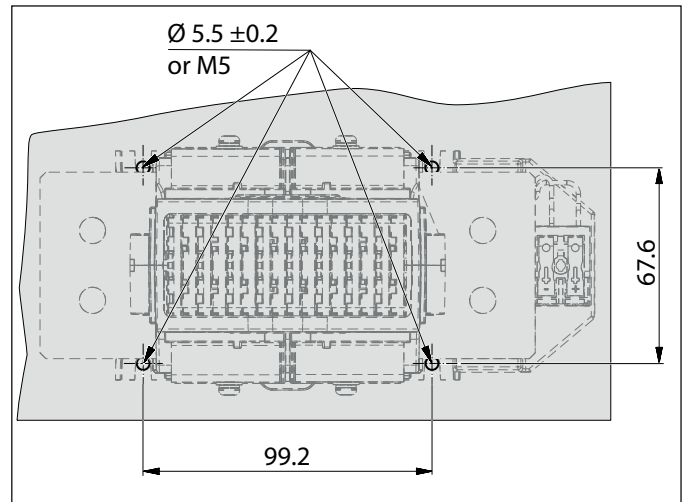
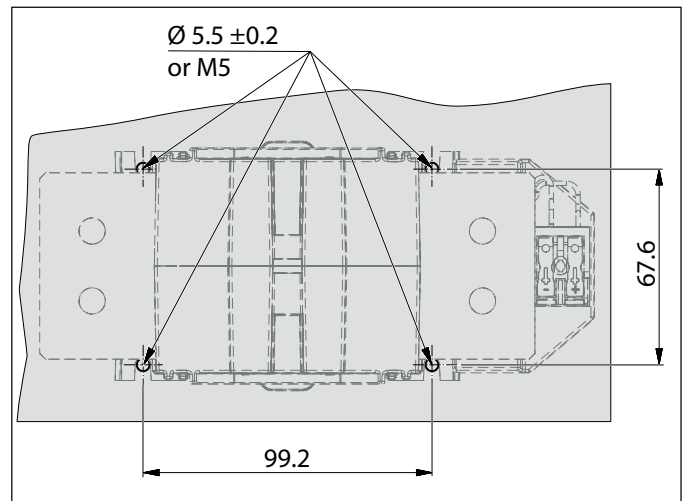

Fig. 1: C320K: Dimensions and layout of mounting holes
Fig. 2: C320S: Dimensions and layout of mounting holes
- ▶ A suitable mounting plate with 4 mounting holes in accordance with the following dimensional drawings (**Fig. 1 and Fig. 2**) must be provided for fastening of the contactors.